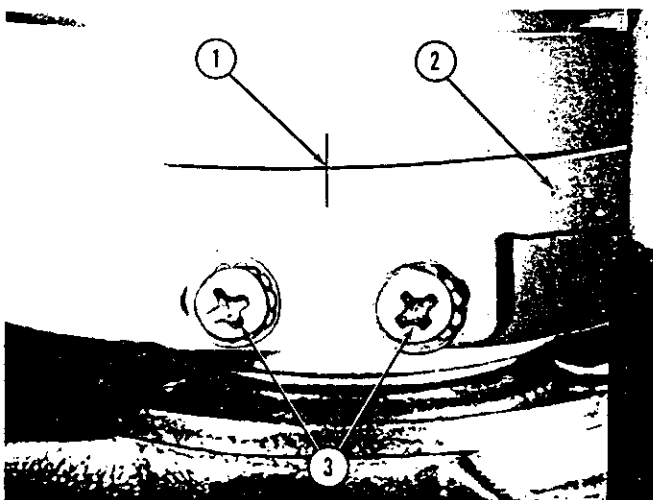

Fig. 68. MUTE AND PLAY SWITCH TIMING
e. Mute and Play Switch Adjustments. (Figs. 68, 69, and 70)
The cam lobe that operates the mute and play switch is fastened to the lateral surface of the main cam with two locking screws and is movable to permit advance or delay in the action of the mute and play switch. Figure 68 shows index lines that appear on the main cam and the mute and play cam. An adjustment of the cam as shown is accurate in the majority of cases, however, the following method may be used for this adjustment:
(1) Set the mute and play cam lobe so that its timing mark (Item 1, Fig. 68) aligns with the mark on the main cam.
mute and play switch is stopping the mechanism in its play position, too early. In this case move the cam lobe (Item 2, Fig. 68) slightly in the direction opposite to the rotation of the main cam. Also observe the turntable cam when the mechanism stops in the play position. If there is any reverse action of the turntable cam at the play position, the mute and play switch is stopping the mechanism too late. In this case move the cam lobe slightly in the direction of rotation of the main cam. It may be necessary to repeat one or the other of these operations to insure the best play position and provide maximum freedom of the tone arm for compliance with the record grooves.